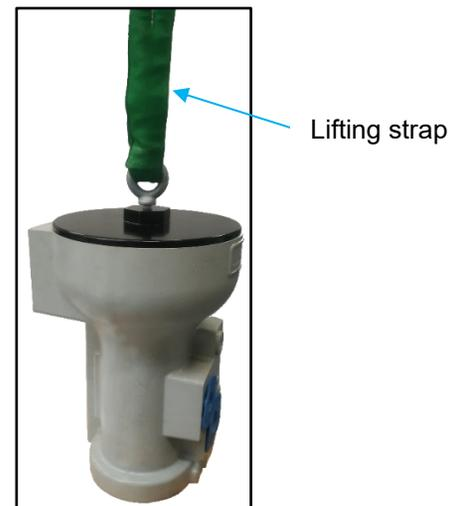

Figure 2-29. VariStroke with Lifting Strap Installed
53. Pull the lifting strap through the VariStroke eyebolt and secure the VariStroke prior to unscrewing it from the VS-DX skid manifold (gently tense the lifting strap) (Figure 2-29).